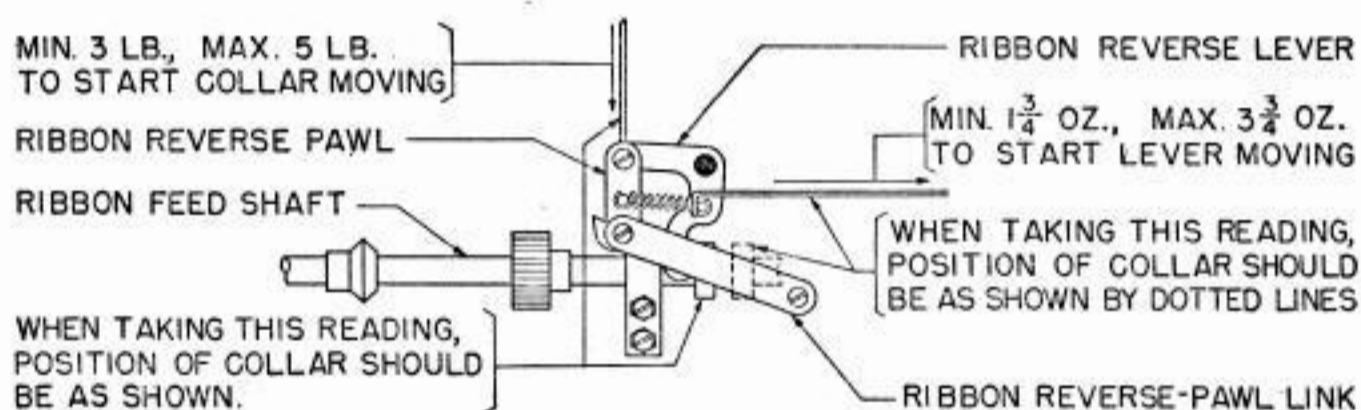
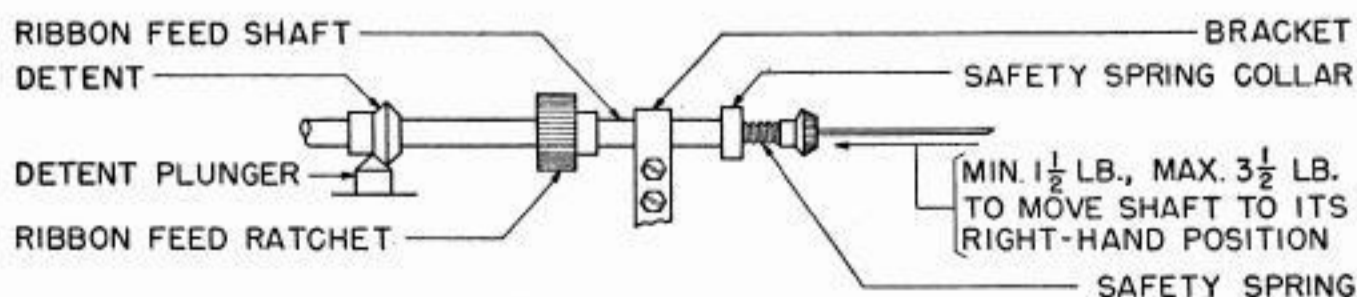

Fig. 18
Fig. 19
2.27 Ribbon-reverse-pawl links should not bind on their shoulder screws. **Figs. 18, 16**
With the main bail in its uppermost position and the ribbon-feed shaft held in its left-hand position, it should require Min 3 lb, Max 5 lb to just start the spring collar moving when the push end of the scale is applied to the upper end of the right-hand ribbon-reverse pawl and pushed vertically downward. Check the left safety spring with the ribbon-feed shaft held in its right-hand position and the scale applied to the left-hand ribbon-reverse pawl. See Fig. 18 for position of gauge and Fig. 19 for location of spring. **Figs. 18, 19**
2.29 **Right and Left Ribbon-Reverse-Pawl Spring:** It should require a pull as indicated in Fig. 18 to start the right ribbon-reverse lever moving when the collar on the ribbon-feed shaft is moved away from the ribbon-reverse lever. **Fig. 18**
2.30 **Ribbon-Feed-Shaft Detent-Plunger Spring:** (Remove ribbon-feed pawl and check pawl.) It should require a push as indicated in Fig. 19 to push the ribbon feed-shaft to the opposite side of the plunger. **Fig. 19**